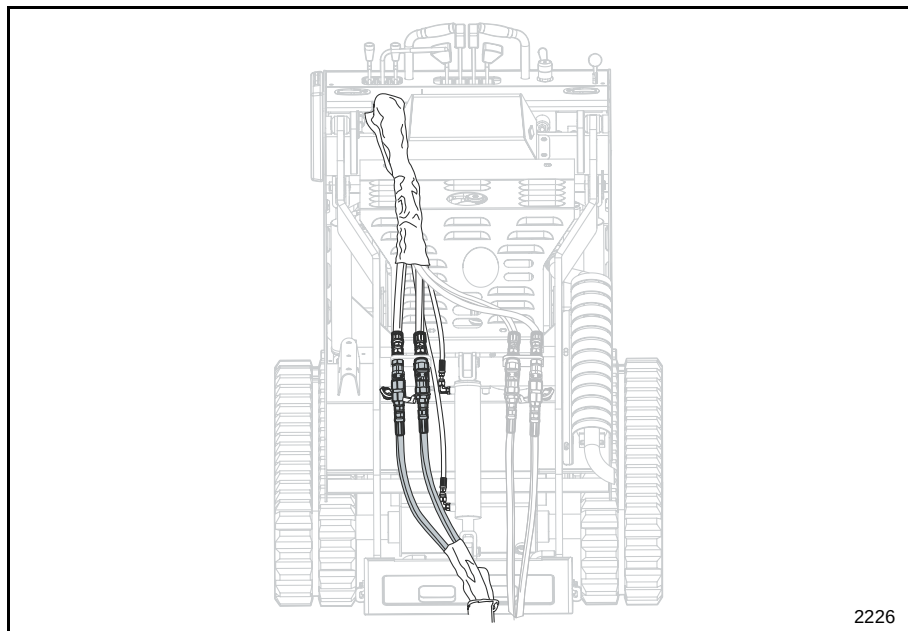

Figure 7 Attachment Hydraulic Hose Routing
11. Make sure that the hydraulic hoses are routed so that they will not be in the way or damaged during machine operation. **Figure 7** shows how the hoses might be routed to keep them out of the way during operation and prevent them from being damaged.